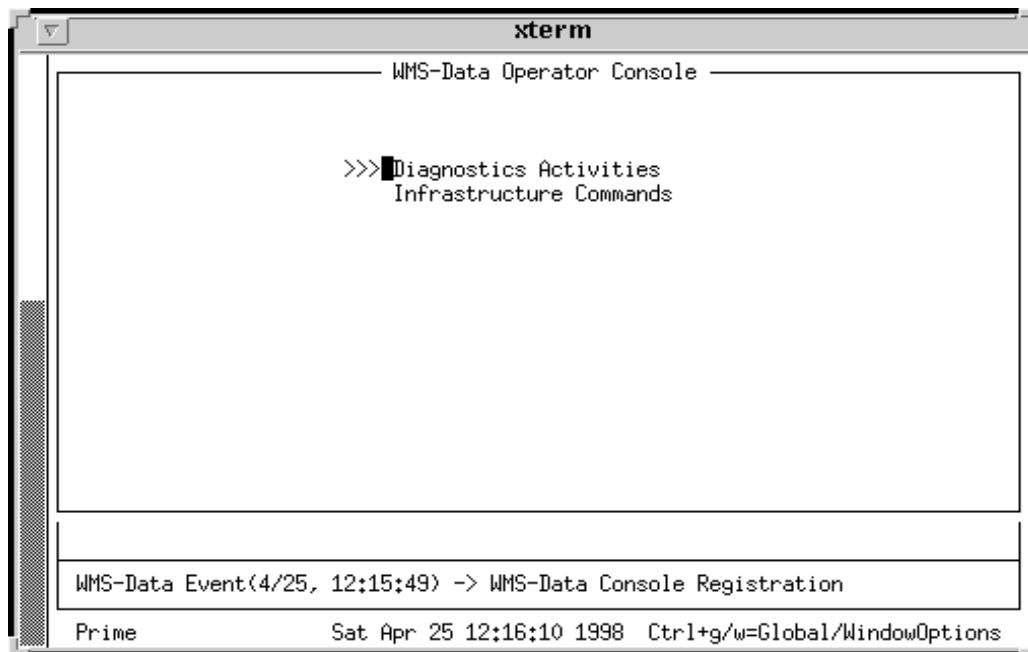

Figure 2-6: Infrastructure Commands Menu—Site Operator Level
1. Display the WMS-Data Operator Console Menu (see Figure 2-6).